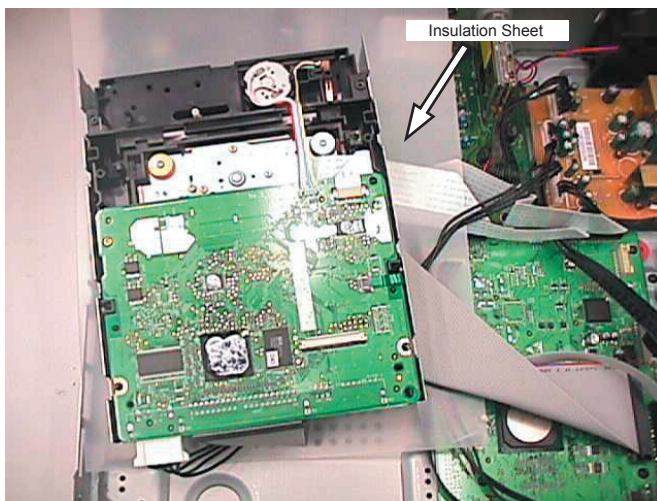

Figure 4-11: Basic Engine Service Position
- 3) Remove 4 screws to loosen the Cover of the Basic Engine to reach Service position Figure 4-11.